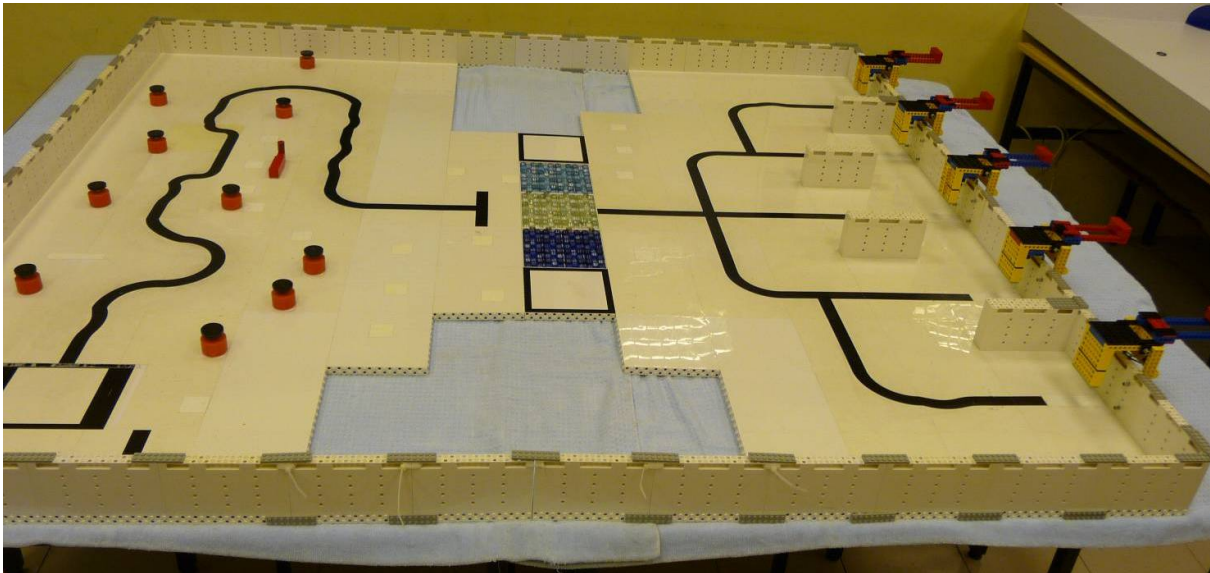

Figure 4: An Example of Playing Field Layout
- e) An **example** of the playing field is given in Figure 4. Other than the rocky-terrain obstacles, other types of obstacles include: